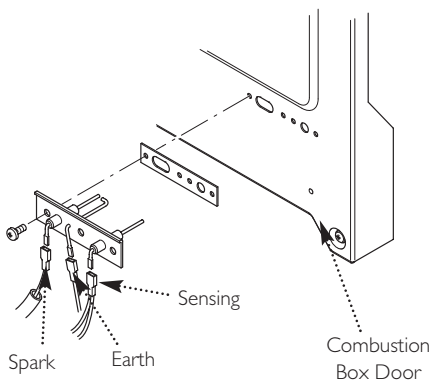

Fig. 51
13.7 Spark and Sensing Electrodes (Fig. 51)